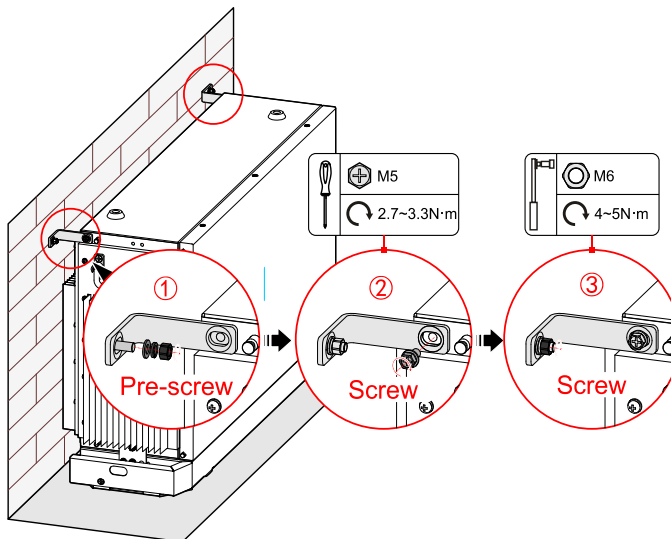

Figure3-18 Fix the wall bracket a
2. Fix the wall bracket a of bottom battery pack1, as shown in Figure3-18.